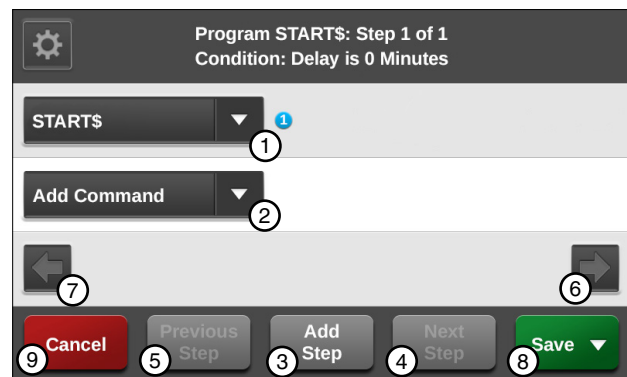

Figure 94-3 1. Command Drop-Down 2. Add Command Drop-Down 3. Add Step 4. Next Step 5. Previous Step 6. Next 7. Previous 8. Save 9. Cancel
4. To add a command, select the **Add Command** drop-down menu on the Program START\$ screen. Refer to Figure 94-3.
8. Finish the program by selecting one of the following. Refer to Figure 94-3.